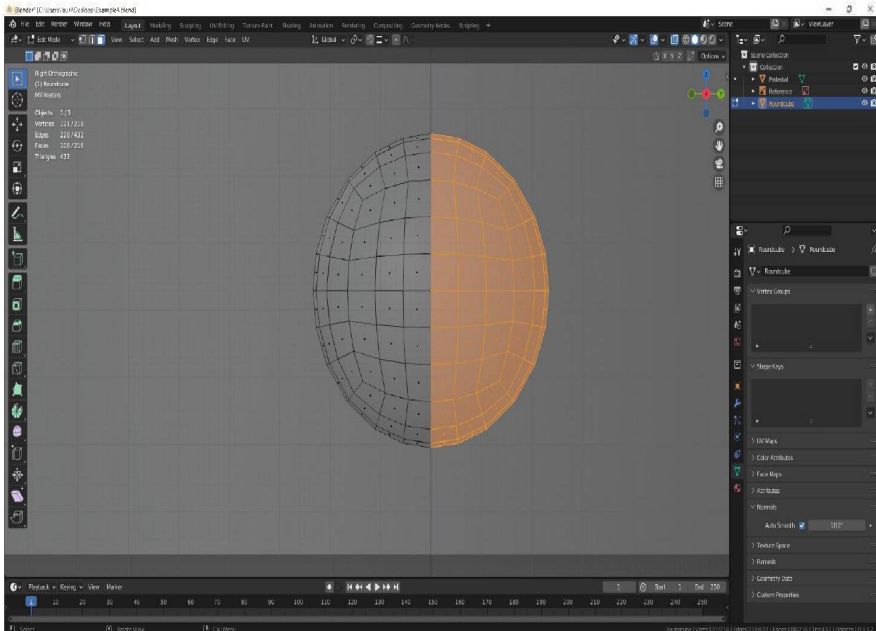

Figure 4.29: Round Cube object, with right half selected in Right Orthographic view mode
6. In **Edit Mode**, with X-Ray mode still enabled, switch to Right Orthographic view by pressing the number pad **3** key. Switch to **Face select** mode, clear selection, and Box select the right half of the sphere as shown in *Figure 4.29*, then delete the selected faces.